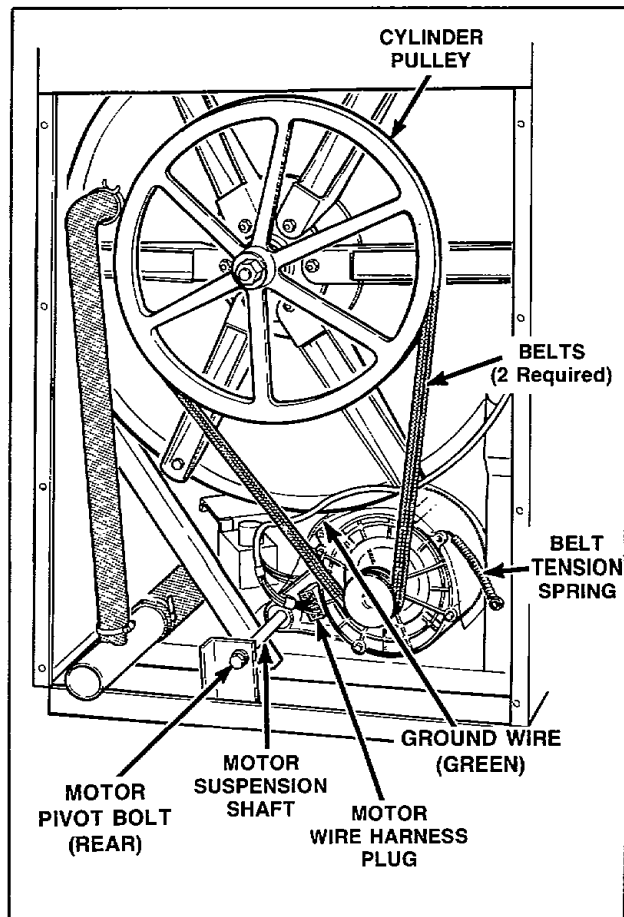

Figure 6
- Run belts off cylinder pulley while slowly turning the pulley, *Figure 6*.
- Unplug the motor wire harness from the motor, *Figure 6*.
- Remove the screw, nut and lockwashers holding the green ground wire to the motor frame, *Figure 6*.
- Unhook the belt tension spring from the motor, *Figure 6*.
- Remove the front pivot bolt from the end of the motor suspension shaft. Then remove the rear pivot bolt from the motor suspension shaft, *Figure 6*.